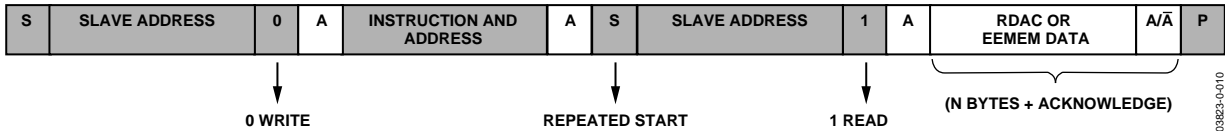
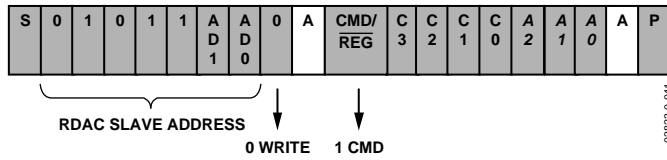
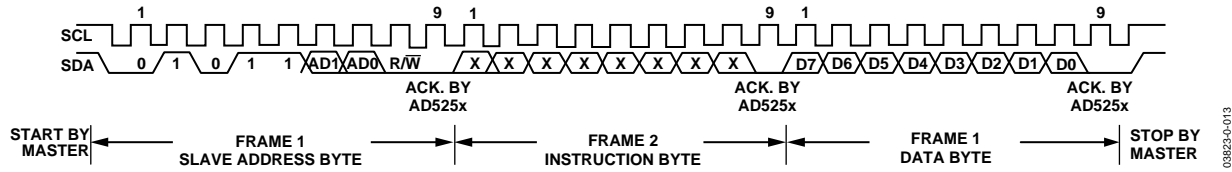
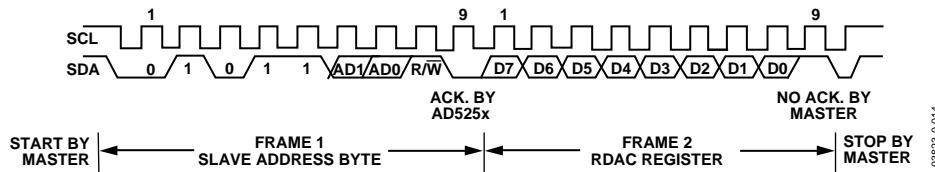

Figure 30. RDAC or EEMEM Random Read
Figure 31. RDAC Quick Command Write (Dummy Write)
Figure 33. General I2C Write Pattern
Figure 34. General I2C Read Pattern
Figure 30 illustrates a random RDAC or EEMEM read operation. This operation allows users to specify which RDAC or EEMEM register is read by issuing a dummy write command to change the RDAC address pointer and then proceeding with the RDAC read operation at the new address location.
The AD5251/AD5252 feature 12 quick commands that facilitate easy manipulation of RDAC wiper settings and provide RDAC-to-EEMEM storing and restoring functions. The command format is shown in Figure 31, and the command descriptions are shown in Table 9.
The first byte of the AD5251/AD5252 is a slave address byte (see Figure 33 and Figure 34). It has a 7-bit slave address and an R/W bit. The 5 MSB of the slave address is 01011, and the next 2 LSB is determined by the states of the AD1 and AD0 pins. AD1 and AD0 allow the user to place up to four AD5251/AD5252 devices on one bus.
AD5251/AD5252 can be controlled via an I2C-compatible serial bus and are connected to this bus as slave devices. The 2-wire I2C serial bus protocol (see Figure 33 and Figure 34) follows:
1. The master initiates a data transfer by establishing a start condition, such that SDA goes from high to low while SCL is high (see Figure 33). The following byte is the slave address byte, which consists of the 5 MSB of a slave address defined as 01011. The next two bits are AD1 and AD0, I2C device address bits. Depending on the states of their AD1 and AD0 bits, four AD5251/AD5252 devices can be addressed on the same bus. The last LSB, the R/W bit, determines whether data is read from or written to the slave device.
the addresses of the EEMEM and RDAC registers (see Figure 27 and Figure 28). When MSB = 1 or when the device is in CMD mode, the four bits following the MSB are C3 to C1, which correspond to 12 predefined EEMEM controls and quick commands; there are also four factory-reserved commands. The 3 LSB—A2, A1, and A0—are addresses, but only 001 and 011 are used for RDAC1 and RDAC3, respectively (see Figure 31). After acknowledging the instruction byte, the last byte in the write mode is the data byte. Data is transmitted over the serial bus in sequences of nine clock pulses (eight data bits followed by an acknowledge bit). The transitions on the SDA line must occur during the low period of SCL and remain stable during the high period of SCL (see Figure 33).
3. In current read mode, the RDAC0 data byte immediately follows the acknowledgment of the slave address byte. After an acknowledgement, RDAC1 follows, then RDAC2, and so on. (There is a slight difference in write mode, where the last eight data bits representing RDAC3 data are followed by a no acknowledge bit.) Similarly, the transitions on the SDA line must occur during the low period of SCL and remain stable during the high period of SCL (see Figure 34). Another reading method, random read method, is shown in Figure 30.
4. When all data bits have been read or written, a stop condition is established by the master. A stop condition is defined as a low-to-high transition on the SDA line that occurs while SCL is high. In write mode, the master pulls the SDA line high during the 10th clock pulse to establish a stop condition (see Figure 33). In read mode, the master issues a no acknowledge for the ninth clock pulse, that is, the SDA line remains high. The master brings the SDA line low before the 10th clock pulse and then brings the SDA line high to establish a stop condition (see Figure 34).